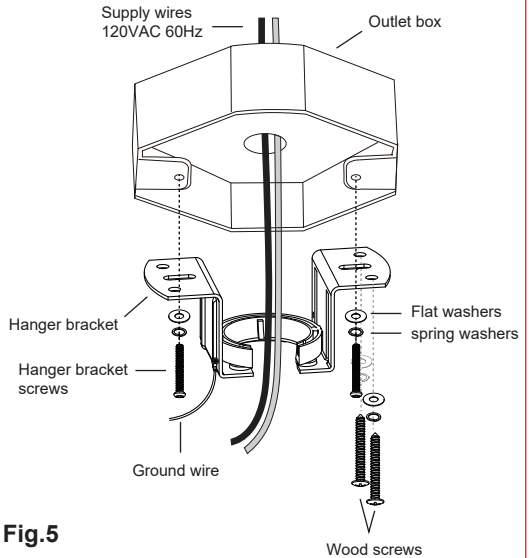

Fig.5
Step 1. Pass the 120-volt supply wires through ceiling hanger bracket as shown in Fig.5.
Step 2. Secure hanger bracket to the ceiling outlet box with the screws and washers included with mounting hardware. (Fig.5)